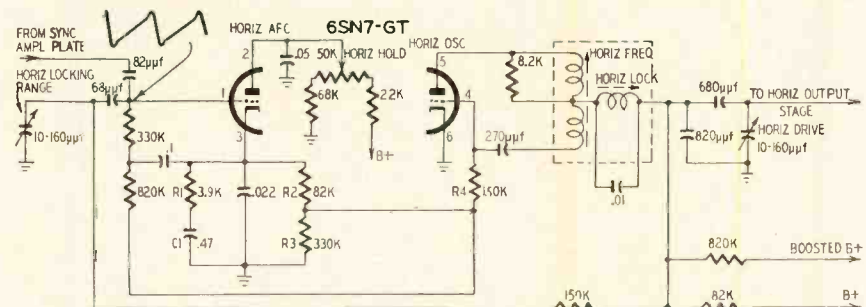

Fig. 5—Diagram of RCA's popular Synchroguide (pulse width) a.f.c. circuit.
2. *Synchroguide (pulse width)* (Fig. 5). This system consists of a horizontal control tube which varies the bias at the grid of the horizontal oscillator, varying its frequency accordingly.
anti-hunt circuits in the other systems are: R1, C1 in Fig. 5 and R2, C1 in Fig. 7.